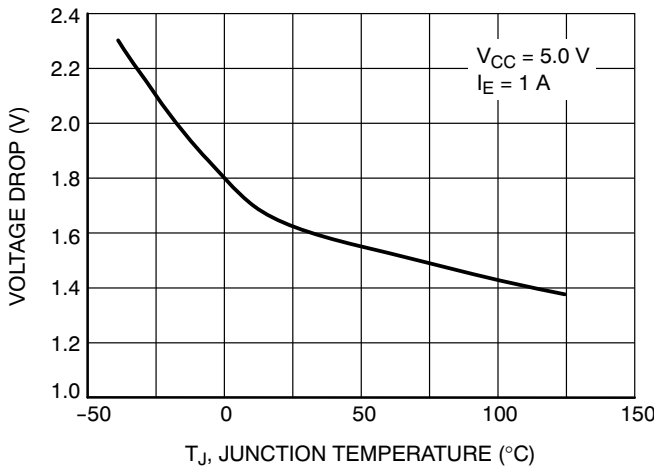

Figure 7. Emitter Follower Configuration Output Darlington Switch Voltage Drop vs. Temperature
- 9. V_{SWCE} - Darlington Switch Collector to Emitter Voltage Drop, refer to Figures 7, 8, 9 and 10.